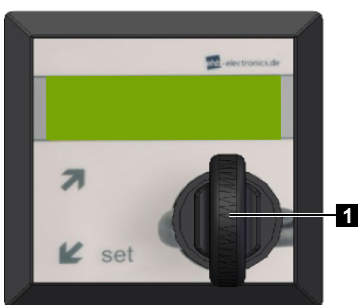

Fig. 195
- Turn the key (Fig.195/1) anti-clockwise into the initial position as shown and remove the key.